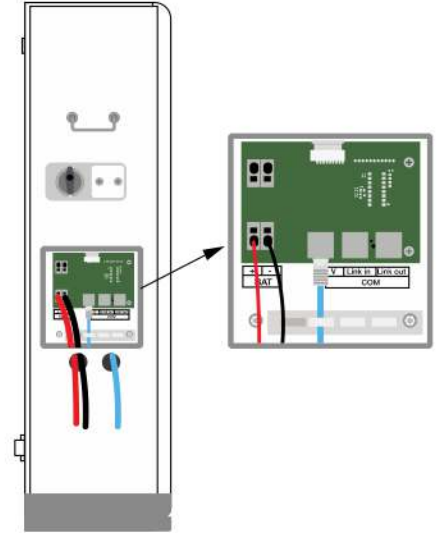

Figure 46 Battery connections (from EI Battery)
- 4) Connect the conductors to the e-stop contacts as shown in Figure 46.